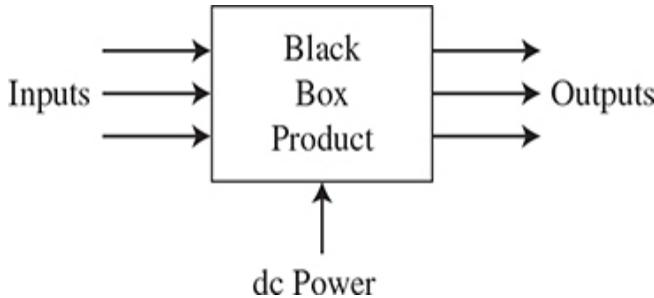

Figure 1.2 The “black box” concept that applies to most electronic circuits or products.
4. Treating the product as a “black box,” identify the inputs and the outputs. See Fig. 1.2. An electronic circuit or product can be viewed as a box of signal processing and manipulation that responds to one or more inputs and then generates one or more outputs. Describe each signal in as much detail as possible. Also identify where the inputs come from and where the outputs go. Be sure to include the ac and/or dc power requirements. Again, be as detailed as you can at this early stage.